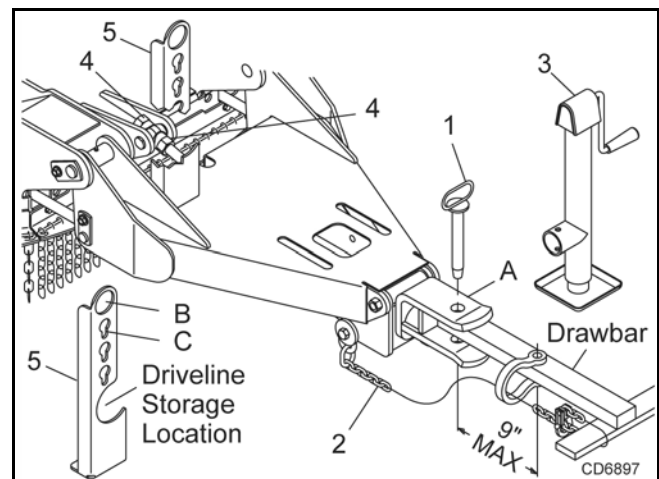

Figure 1. Tongue to Tractor Drawbar Connection
3. Route the hose through the hose holder opening (B, Figure 1), be sure the hose can slide freely in the holder. Do not allow hose slack to drag on the ground or become caught on tractor protrusions.
6. Store hose quick couplers in openings (C, Figure 1) on hose holder (5) when hoses are not in use.